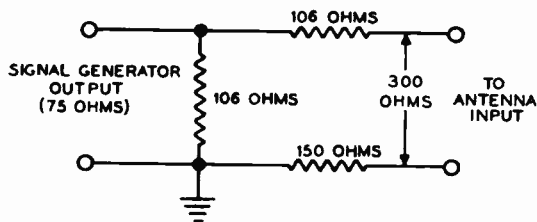

Fig. 1. Antenna-Input matching network.
**SWEEP (FM) GENERATOR:** Connect to antenna-input circuit through antenna-input matching network (See figure 1).
**SWEEP (FM) GENERATOR:** After step 7, connect to antenna-input circuit through antenna input matching network. (See figure 1.)